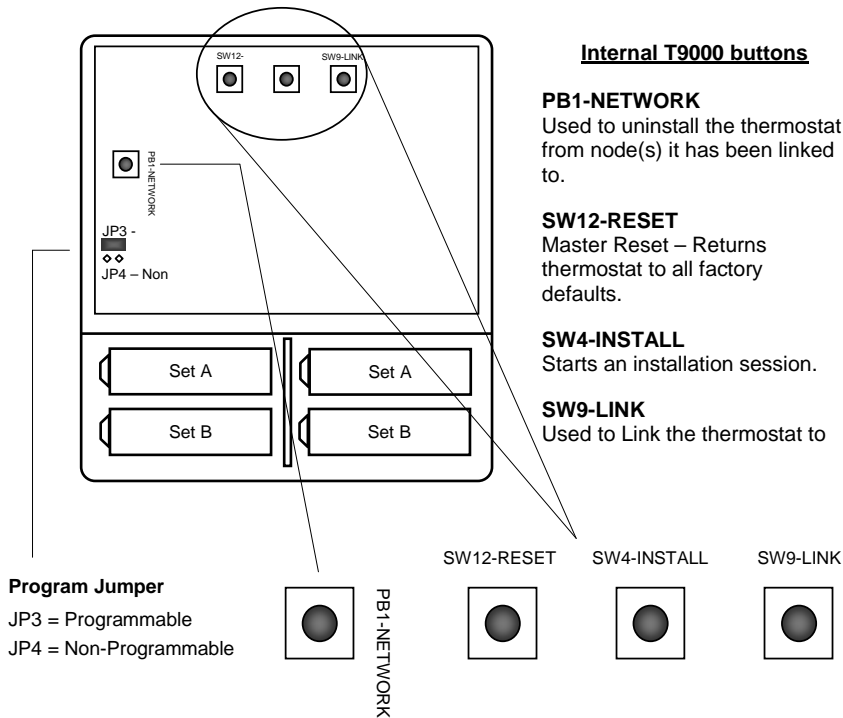

Figure 2 – Internal 12400H Buttons
Refer to Figures 2, 3 & 4 for inside thermostat button locations and functions and display information.
1. Press SW4-INSTALL button inside the 12400H thermostat. *Install* icon will blink (see Figure 2 & 3).
3. When all digits are set, press SW9-LINK (Figure 2) to send number to the 12200C-157. The number you set should remain displayed. If it changes to 9999, repeat steps 2 and 3 above.
1. Press SW4-INSTALL button inside the 12400H thermostat (Figure 2). Install icon on display will blink.